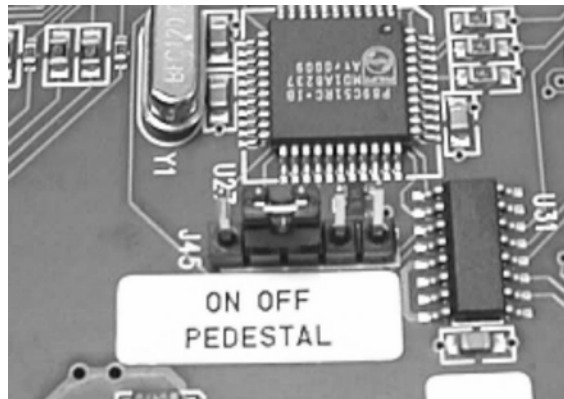

Figure 2-5: Setting the NTSC Setup Pedestal Jumper
3. The Setup Pedestal jumper J45 is located near the center of the board at the front of the unit. To turn off the pedestal, position the shorting jumper on the header so that pins 2 and 3 are covered as shown in Figure 2-5.